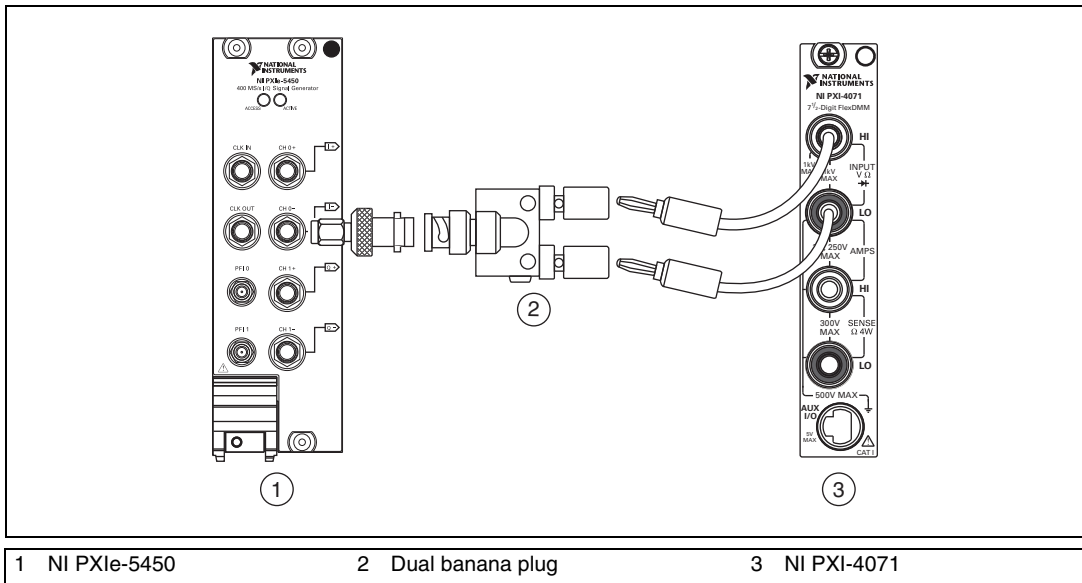

Figure 4. DC Voltage Common Mode Offset Accuracy Verification Connection (CH 0)
6. Connect the NI 5450 CH 0- output to the positive output of the DMM and the cable shield ground of the NI 5450 CH 0- output to the negative input of the DMM as shown in Figure 4.